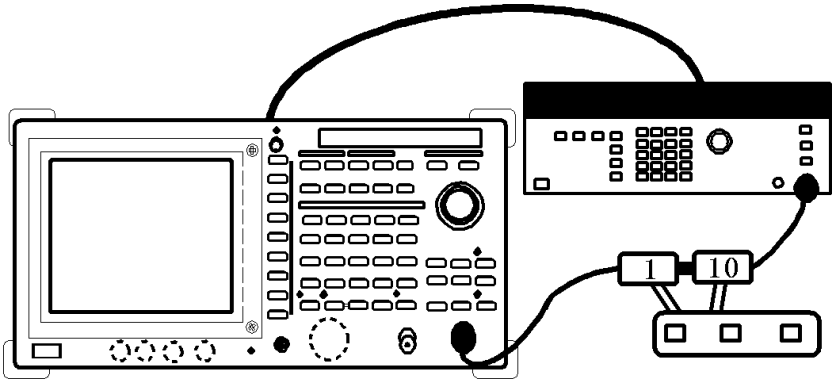

Figure 1-8 Setup for Measuring a Scale Fidelity
1. Connect the signal generator and step attenuator as shown in Figure 1-8.